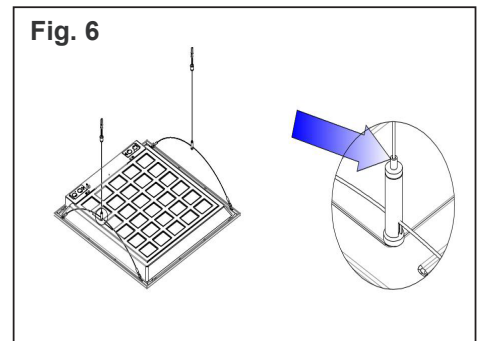

Fig. 6
6. Adjust the height (Fig. 6).